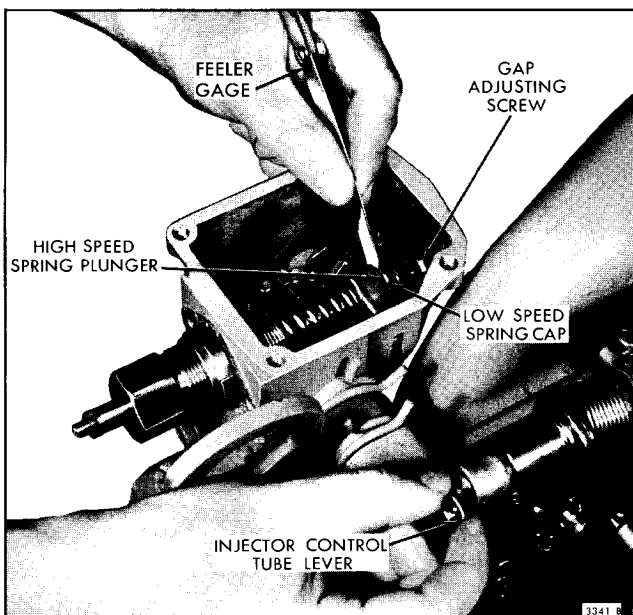

Fig. 1 - Adjusting Governor Gap - Tool J 3172
7. Check the gap between the low speed cap and the high speed spring plunger with a .0015" feeler gage. If gap setting is incorrect, reset the gap adjusting screw, Fig. 1.